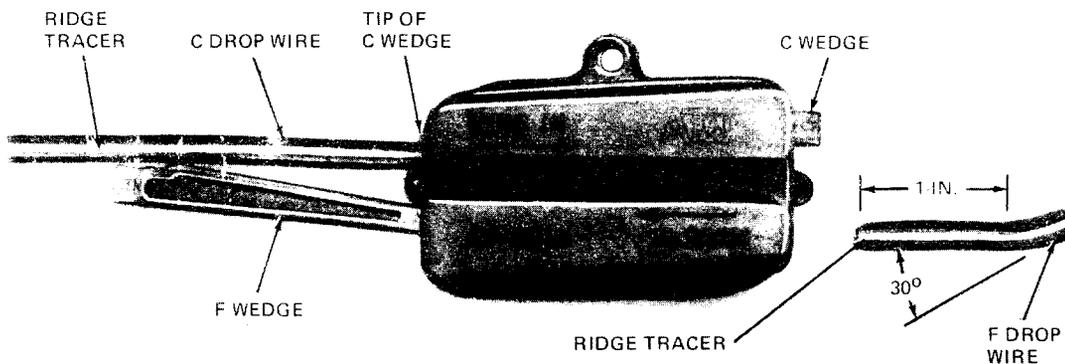

Fig. 10—Splicing C Drop Wire to F Drop Wire
5.05 ♦ Make a 30-degree bend, toward the center of the drop wire splice, approximately 1 inch from the end of the drop wire and insert the prepared C drop wire in the opening marked **WIRE IN** opposite the C wedge. ♦ Push the drop wire in until it stops. Push up and in on the wedge to secure the drop wire (Fig. 9). Make sure the wedge is on **top** of the drop wire. Tap the C drop wire wedge with a suitable tool until the tip of the wedge protrudes from the end of the shell (Fig. 10).